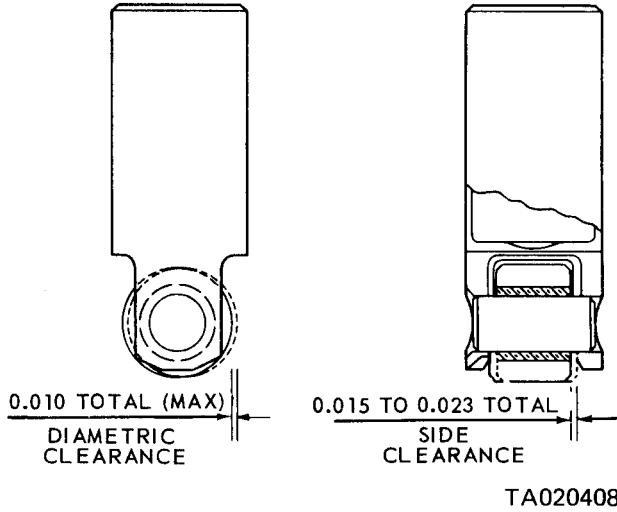

Figure 3-64. Cam roller wear and clearance diagram.
(5) Inspect the push rod springs for damage. Check the push rod spring tension. Use a spring tester to check the push rod spring load. Replace the spring when a load of less than 250 lbs. will compress the spring to a length $2\frac{9}{64}$ inches.
(6) Inspect the cam follower holes in the cylinder head to make sure they are clean, smooth and free of score marks.
(7) Check the follower to cylinder head clearance. The clearance must not exceed 0.006 inch with used parts. Inspect the cam follower roller to make sure it turns smoothly and freely on its pin, and that the roller is free from flat spots or scuff marks. If the roller is damaged, then inspect the cam lobe on which it operates.
(8) Refer to figure 3-64 and check the clearance between the cam roller and follower and the clearance between the roller bushing and pin. If the clearance is excessive replace the cam follower or install a new roller follower set. When replacing a cam follower or installing a new roller set make sure the follower legs are beveled.
(h) Refer to figure 3-64 and check the side clearance.